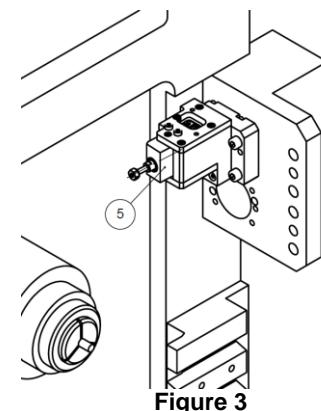
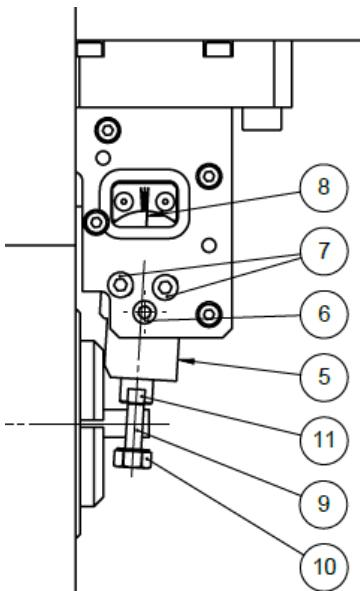

Figure 3
Figure 4
1. Slightly loosen the 2 screws (fig. 4, pos. 7).
2. Adjust the angle with the adjusting screw (fig. 4, pos. 6). The scale (Fig. 4, Item 8) shows the angular position of the cutting shaft. For a more precise adjustment, use the reference face (fig. 3, pos. 5).
Place one or two gear hobs on the Ø3.5 mm shaft (fig. 4, pos. 9). Tighten the nut (fig. 4, pos. 10) by holding the shaft fixed with the plates provided for this purpose (fig. 4, pos. 11).